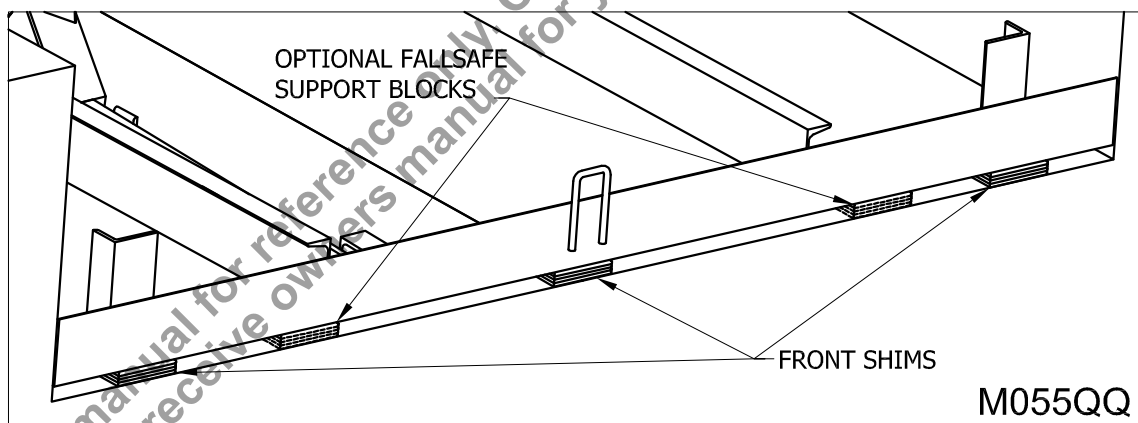

Figure 26: Front Angle and Optional Fallsafe Support Block Shims
1. ___ Front angle shims. (See “Figure 26: Front Angle and Optional Fallsafe Support Block Shims” on page 20)
2. ___ Fall safe support block shims. (See “Figure 26: Front Angle and Optional Fallsafe Support Block Shims” on page 20)